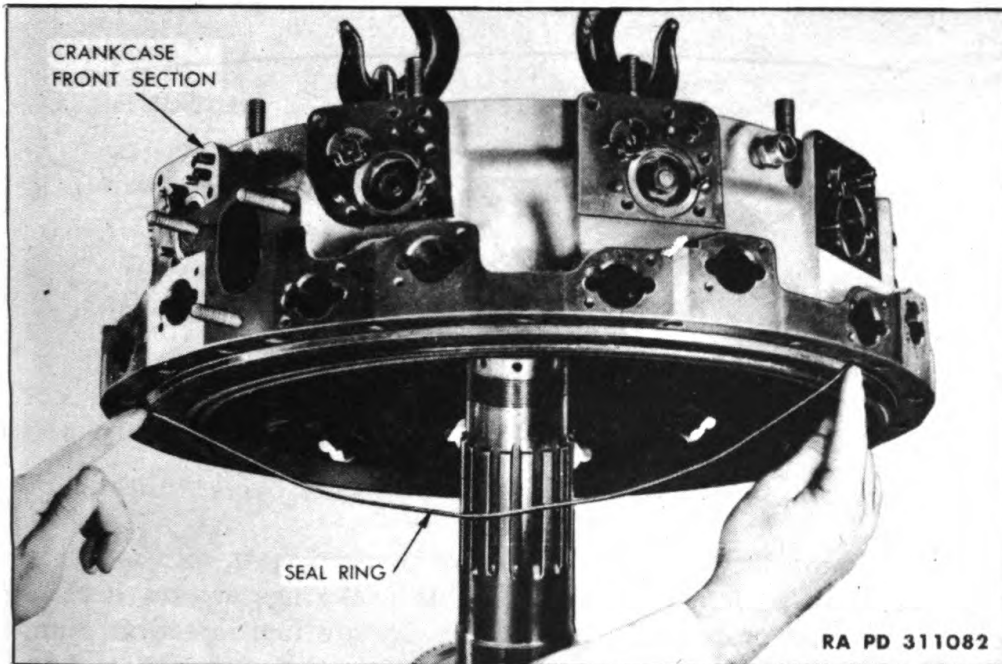

Figure 60 – Installing Crankcase Seal
(1) **INSTALL SEALS.** Install sealing ring on pilot diameter of crankcase front section (fig. 60). Install "T" section oil passage seal into oil manifold groove that transmits lubricating oil to valve tappets (fig. 61).